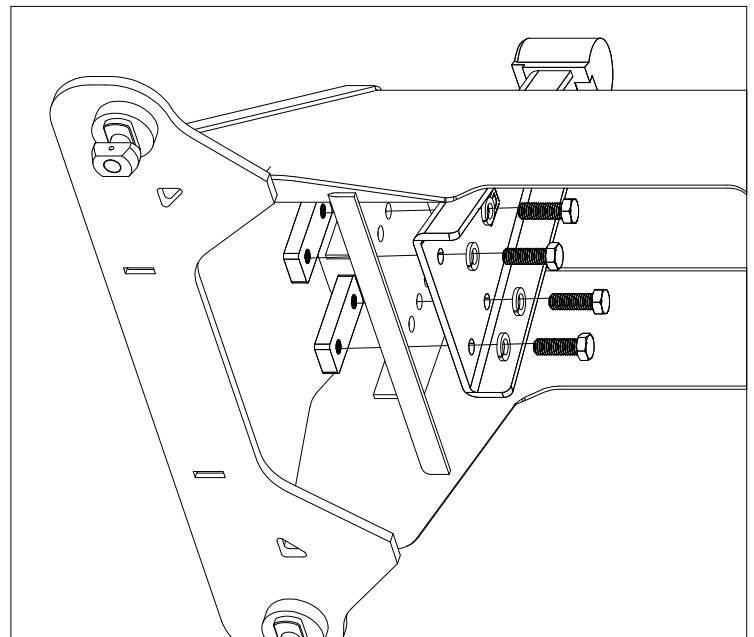

Figure A2: Passenger pivot arm mounting location.
- 2. Secure arms.** Locate both pivot arms, the four threaded blocks, eight 1/2" cap screws, and eight 1/2" split lock washers. Place the lock washers over the cap screws. Align the flat side of the pivot arm flat against the bolt plate and install four 1/2" cap screws through the holes on the arm, holding the arm in place, as shown in Figure A2. Pass the threaded blocks under the bases side and align the block with each set of screws and start each screw, as shown in Figure A2. After all the screws are started through the arms, torque each bolt to 110 ft-lbs.